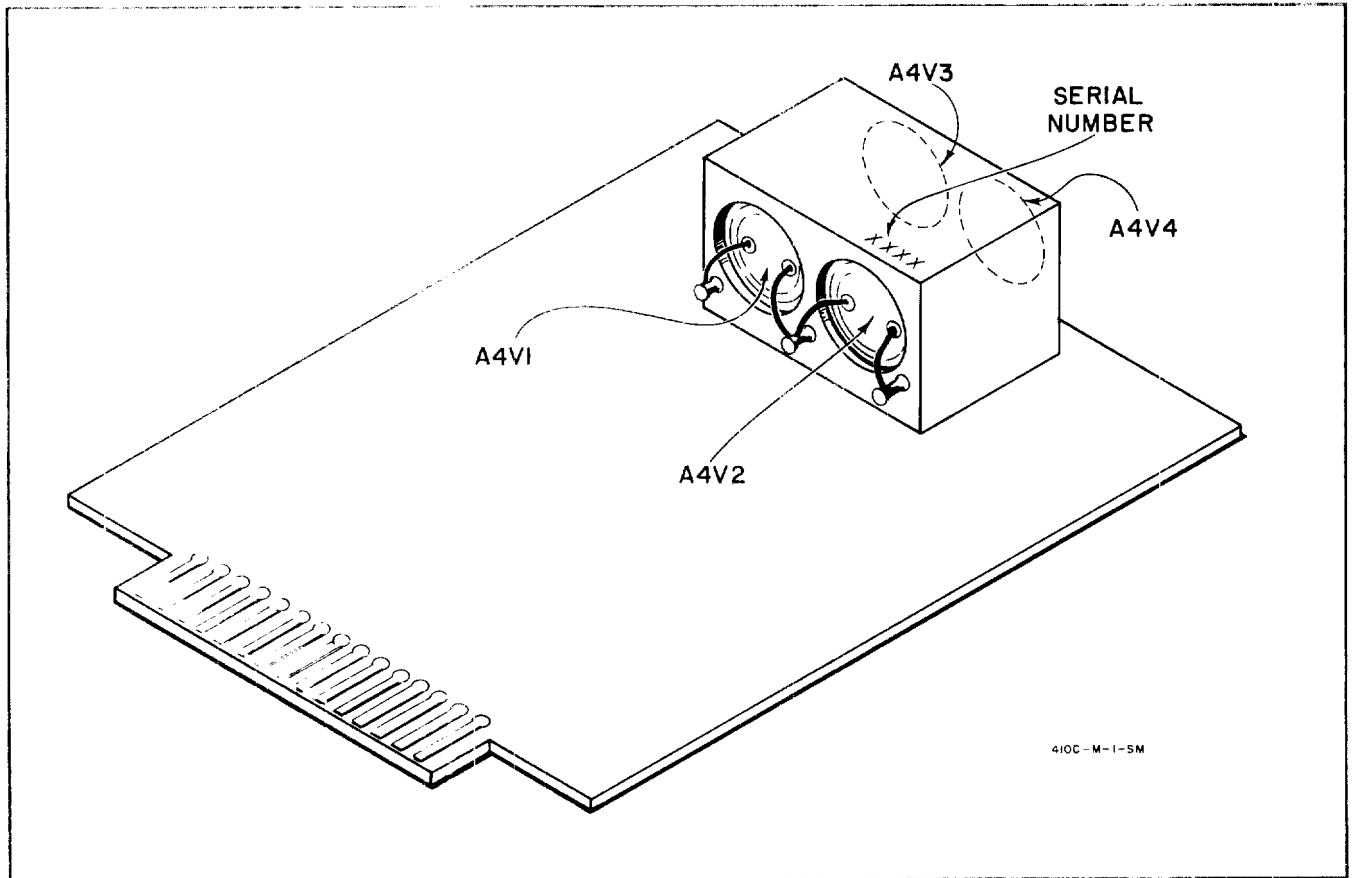

Figure 5-6. Chopper Assembly Installation
a. Figure 5-6 describes the physical orientation of chopper assembly on printed circuit board. Note location of chopper assembly serial number in relation to circuit board pins.